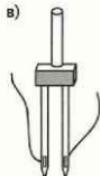

FIGURE 2.22B
- **Twin needles:** This needle is actually two needles on a single shaft that produces two rows of straight stitching on the surface with a zigzag stitch underneath (Figure 2.22b). Suitable for both woven and knit fabrics, these needles come with two sets of numbering. The first number indicates the needle size. For instance, 4.0/80 indicates there are two size 80 (12) needles set 4.0 mm apart. Twin needles are available in universal, ballpoint, jeans, and stretch variations, with needle widths set 1.6 to 8.0 mm apart and needle sizes of 70 to 100.